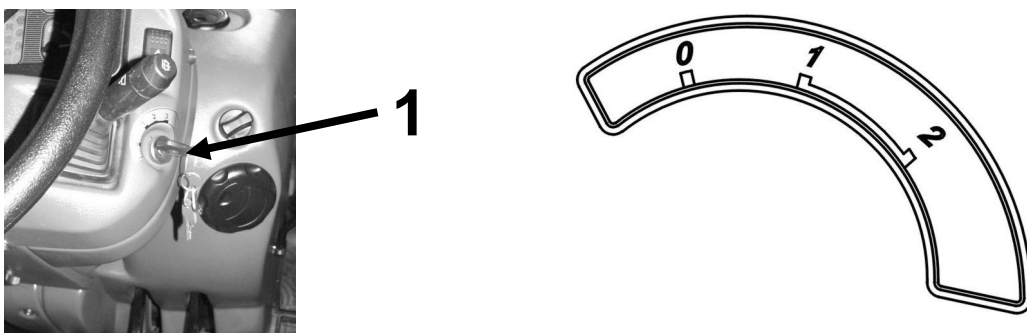

Fig. D-6 Engine start-up. 1 – starter switch;
-  - engine oil pressure. Comes on, when the pressure drops below the admissible value. Comes on also, when the starter key is set to I (see Fig. D-6).
At the control panel (**Fig. D-6**), on the right, there is the three-position starter switch (ignition switch):